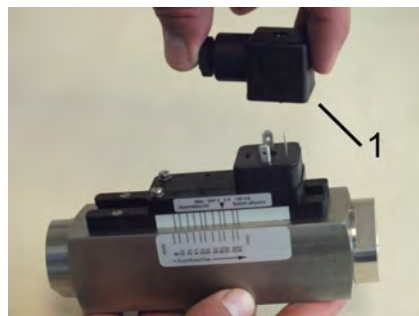

Fig. 53: Remove female socket
2. ➤ Remove the female socket and gasket (Fig. 53/1) by pulling upwards